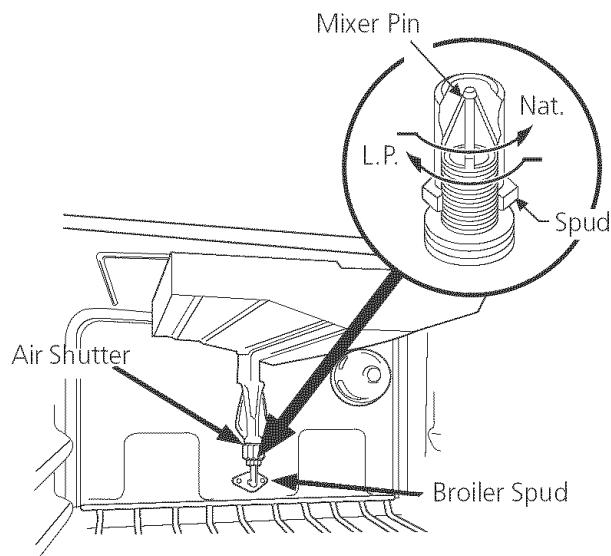

Figure 10
C. Adjust Broiler Burner Orifice (Self-Cleaning Models Only) (see figure 10)
Using a $\frac{1}{2}$ " wrench, turn the adjustable spud clockwise approximately $2\frac{1}{2}$ turns until it is snug against the gas mixer pin. Do not overtighten (see figure 10).